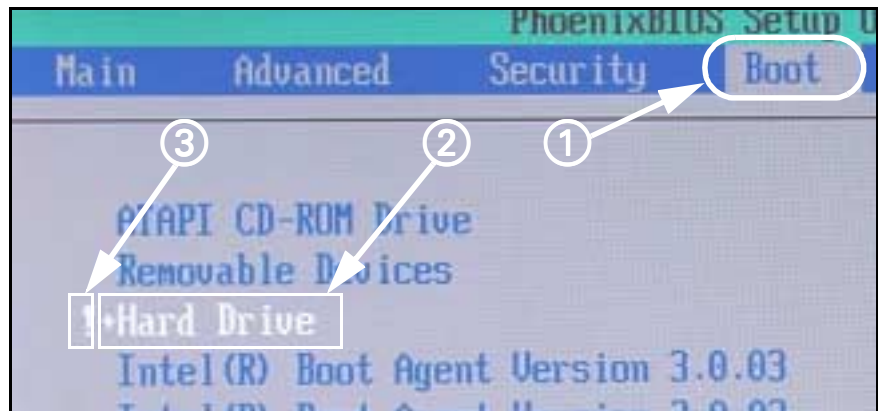

Figure 8-14 Setup Utility Window
- 3) At PhoenixBIOS Setup Utility window, use MDS keyboard left/right arrow keys to Select *Boot* Tab (① in Figure 8-14).
- 4) Use MDS keyboard Up/Down arrows to Select *+Hard Drive* (② in Figure 8-14).
- 6) Verify that an exclamation point *!* appears to the left of *+Hard Drive* (③ in Figure 8-14).